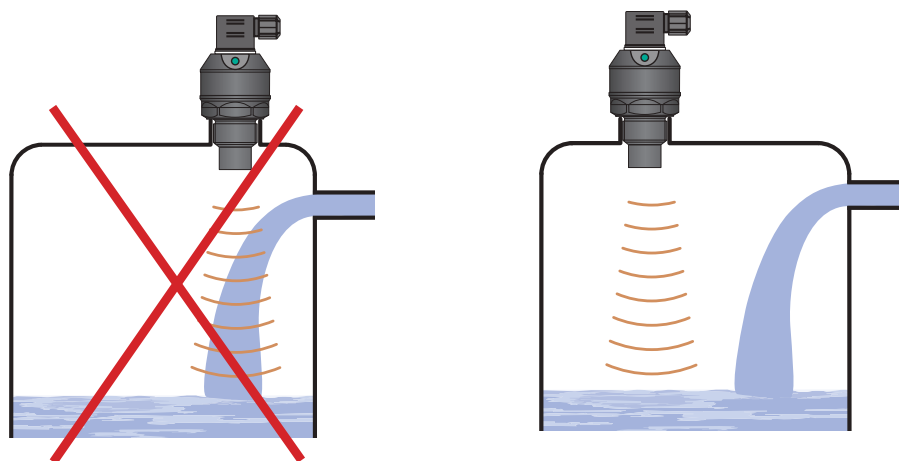

Fig. 7: Installation of the device out of reach of filling circulation
i) Do not install the device in or above the filling point (Fig. 7). The measurement could be affected by the inflowing medium.